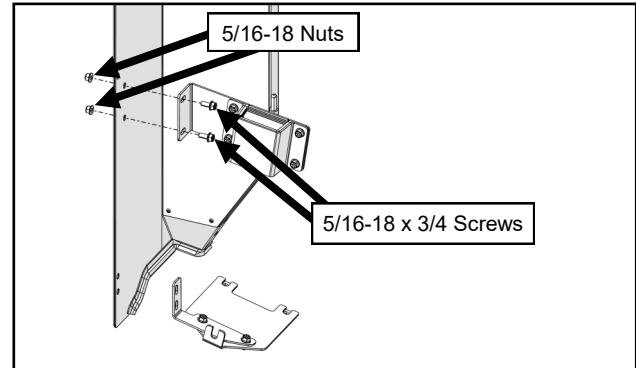

Fig. 5.1 (Rear Leg to Side Frame Fasteners)
- 5.1 Fasten the rear leg to the previously installed ROPS brackets. See Figure 5.1.